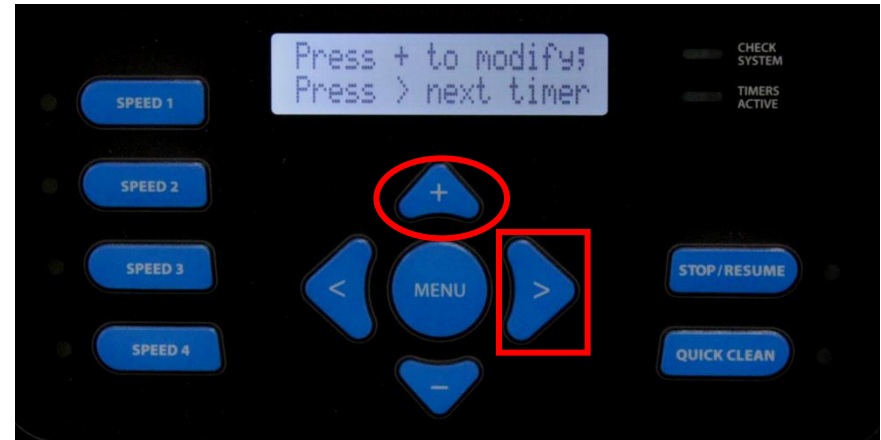

Figure 44
- This screen (fig 44) will alternate with fig 43 on the previous page. This screen tells you to use the  button to modify the timer setting or the button  to go to the next timer.